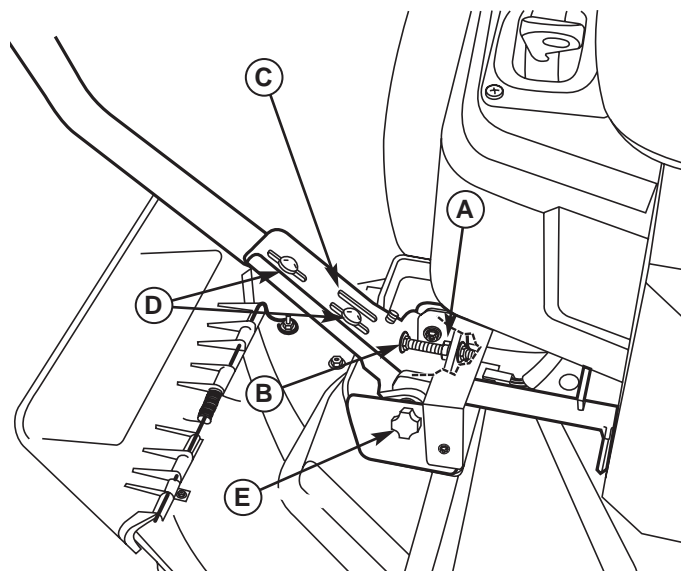
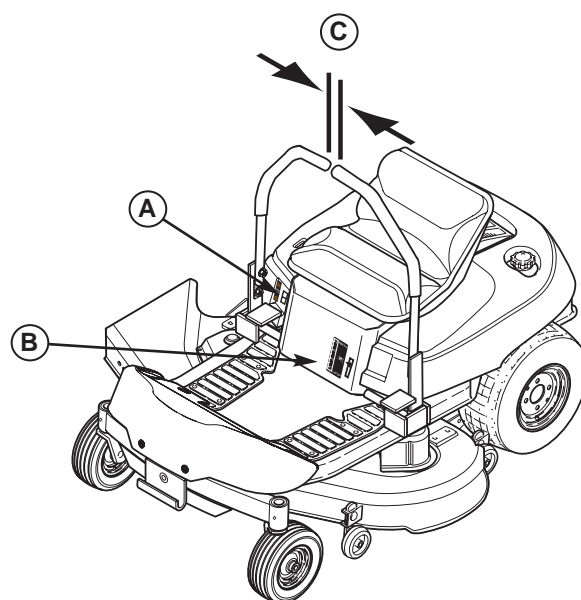

Figure 32. Control Lever Adjustment
Figure 33. Cutting Height Adjustment
To Adjust Control Lever Height: Pull the levers in across the operator's lap to their DRIVE positions. Loosen the mount bolts (D, Figure 32) and raise or lower the levers to the desired position. Tighten the mounting bolts.(D).
To Adjust Control Lever End Gap: The control lever end gap (C, Figure 33) should be adjusted so that the levers do not contact each other when placed in DRIVE positions. Loosen the jam nut (A, Figure 32) and adjust the length of the carriage bolt (B) so that the levers do not contact each other. Repeat on the opposite side. Tighten the jam nut (A) to lock the carriage bolt in position.
To Adjust Operator Clearance: The space between the operator and the control levers can be increase by removing the lower mounting bolt (D, Figure 32), pivoting the lever forward, and reinstalling the capscrew through the control lever and forward slot (C). Repeat with the other ground speed lever.
If the rider veers to the right or left when the ground speed control levers are in the maximum forward position, the top speed of the right lever can be balanced by turning the adjustment knob (E, Figure 32). Loosen the jam nut and turn the knob COUNTERCLOCKWISE to increase speed or CLOCKWISE to decrease speed. Tighten the jam nut when complete.
To increase the mower cutting height (raise the mower deck), press the top of the mower cutting height switch (A, Figure 33). To decrease mower cutting height (lower the mower deck), press the bottom of the switch. Mower cutting height range is 3-3/4" to 1-1/2". The cutting height gauge indicates the position of the mower deck.. The cutting height gauge (B) is located on the front of the rider, just behind the driver's left leg.